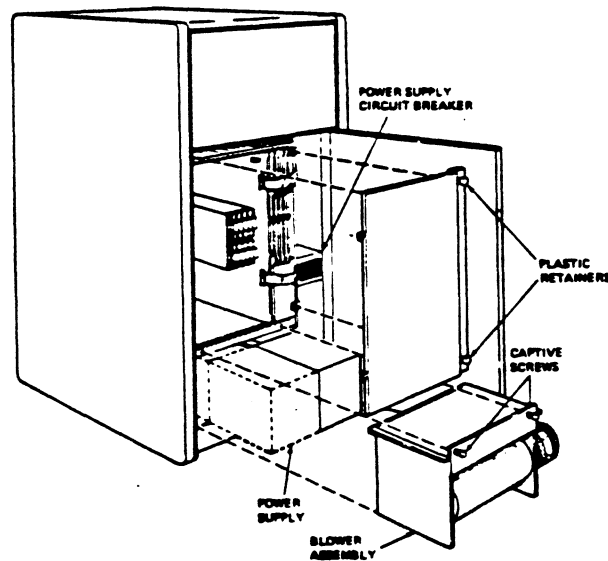

FIGURE 5-23 CABINET CIRCUIT BREAKER REMOVAL
4. Unplug the cords connected to the assembly. See Figure 5-23.